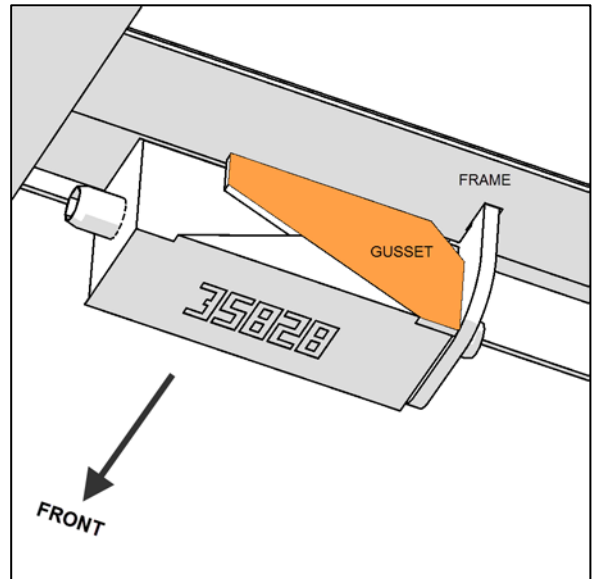

Figure 8
13. Place gusset #240036 in the rear roadside position of jig. (Fig. 8)